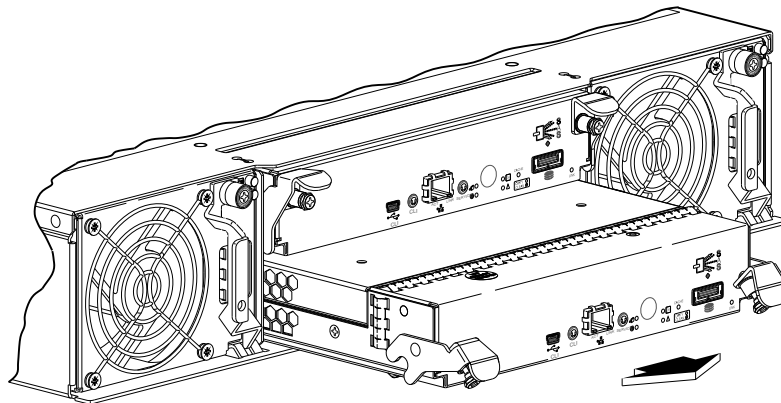

Figure 3 Removing a controller module
- 6 Pull the controller module straight out of the enclosure (see Figure 3).